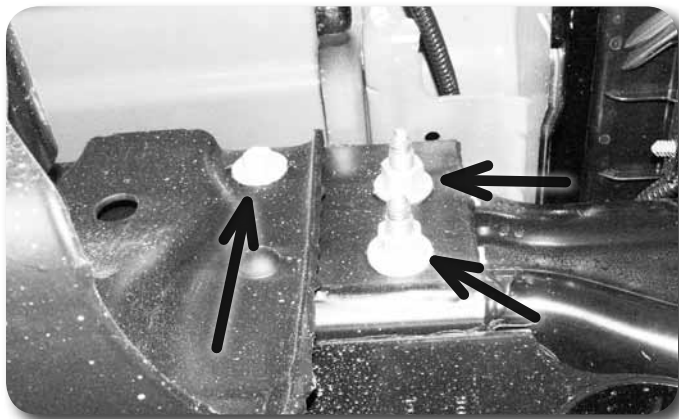
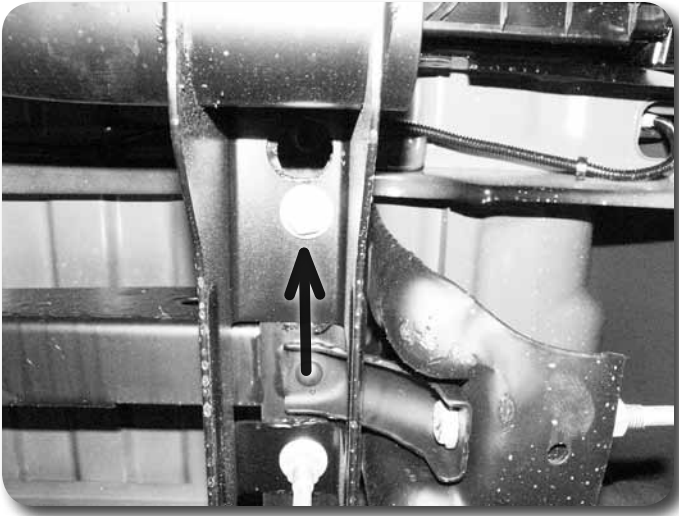

Figure 20A
Figure 20B
9. Remove the 4 bolts (8 total) mounting the rear bumper to the frame rails. 3 are accessed from the side of the frame Figure 20A and one up through the bottom Figure 20B. Remove the bumper from the vehicle. Save all hardware.